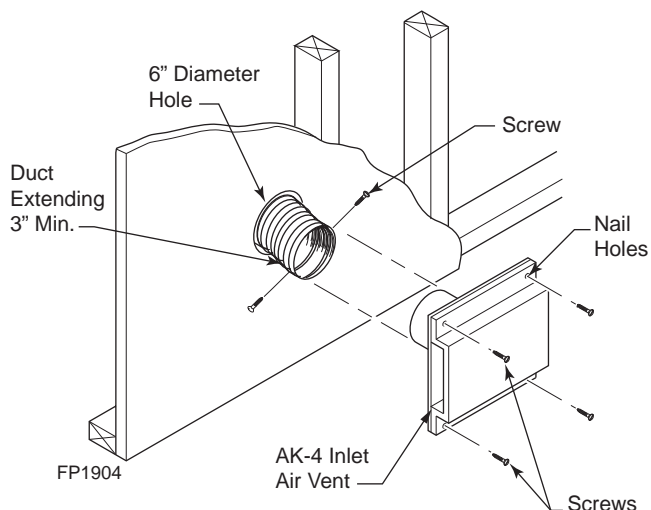

Figure 66 -
4. Attach outside duct to starting collar with duct clamp or screws. *Figure 66*
5. Cut a 6-inch diameter opening for model AK-4 in the outside wall covering where the outside vent is to be located. *Figure 66*